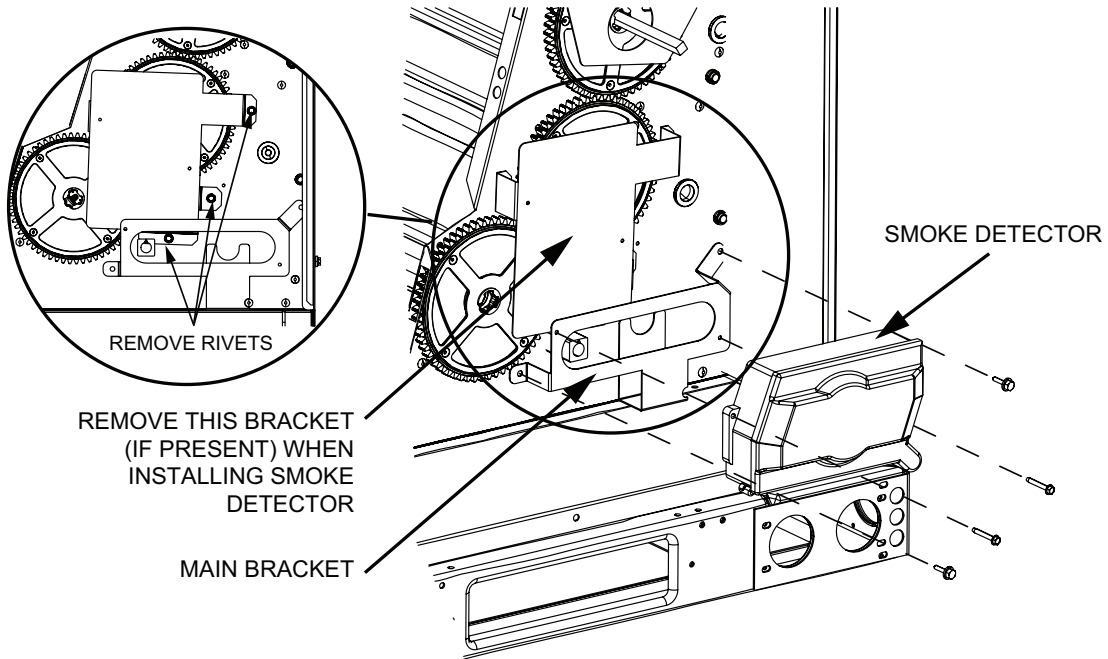

FIGURE 6
- 3 - For 092-150 units with an economizer, see FIGURE 6.